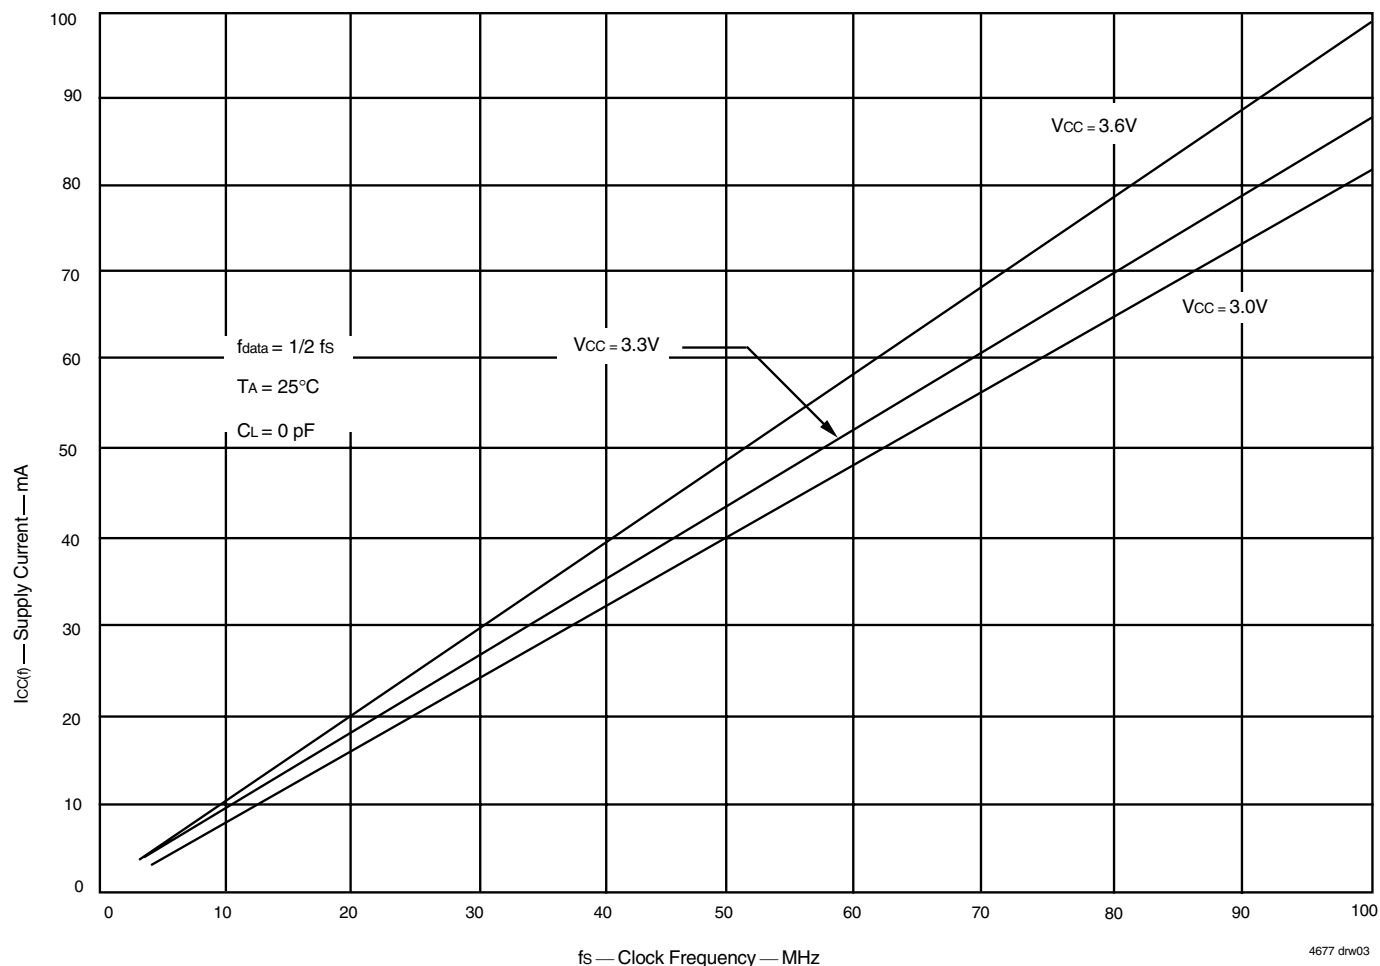

Figure 1. Typical Characteristics: Supply Current (I_{CC}) vs. Clock Frequency (f_s)
- For additional I_{CC} information, see Figure 1, *Typical Characteristics: Supply Current (I_{CC}) vs. Clock Frequency (fs)*.
The $I_{CC}(f)$ current for the graph in Figure 1 was taken while simultaneously reading and writing a FIFO on the IDT72V3684/72V3694/72V36104 with CLKA and CLKB set to f_s . All data inputs and data outputs change state during each clock cycle to consume the highest supply current. Data outputs were disconnected to normalize the graph to a zero capacitance load. Once the capacitance load per data-output channel and the number of these device's inputs driven by TTL HIGH levels are known, the power dissipation can be calculated with the equation below.
With $I_{CC}(f)$ taken from Figure 1, the maximum power dissipation (PT) of these FIFOs may be calculated by: